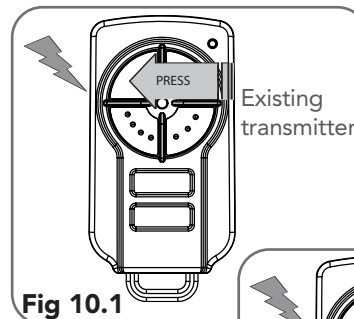

Fig 10.1
- Using the existing transmitter, operate the Door with the transmitter button which has the function to be coded (**Fig. 10.1**) (e.g. Button 1 has been coded with the OSC function assigned).